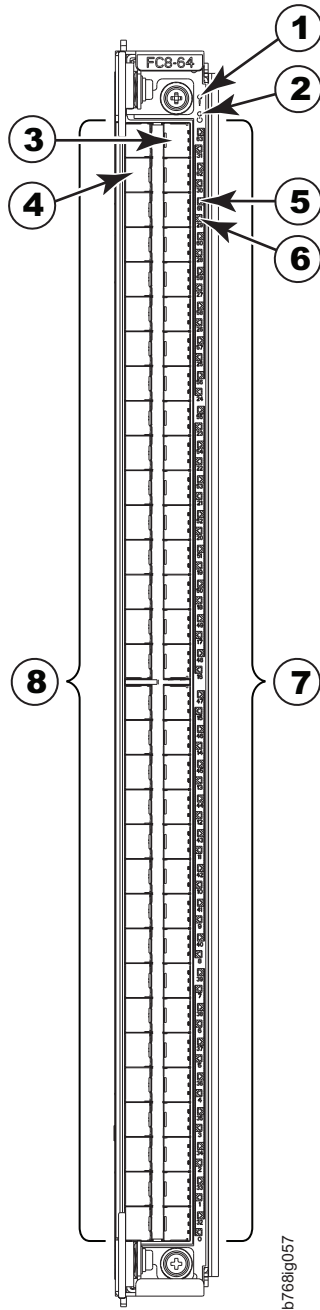

Figure 53. FC8-64 port blade
- Figure 53 on page 176 shows an FC8-64 port blade